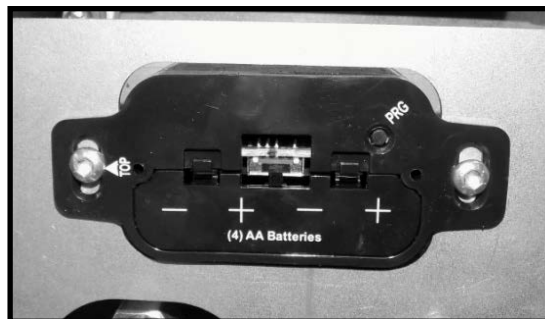
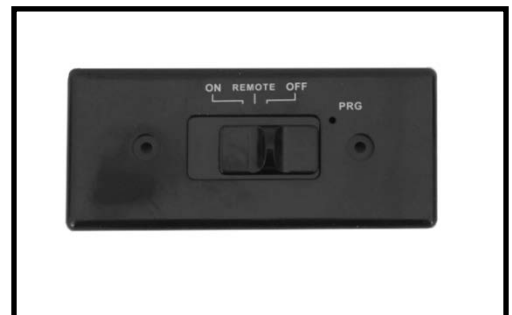

Figure 4: On-off switch.
Figure 5: On-off switch cover.
1. Install 4 AA batteries into the battery holder (Figure 4) located on the rear side behind the surround below the firebox. Install the ON/OFF switch cover (Figure 5) over top of the battery bay. Make sure that the selection switch is on the "Remote" setting.
4. Insert a straightened paper clip into the opening marked "PRG" of the ON/OFF battery bay cover (Figure 4) or (Figure 5) and press the program button once. The module will beep 3 times indicating that it is ready to synchronize with a remote transmitter.